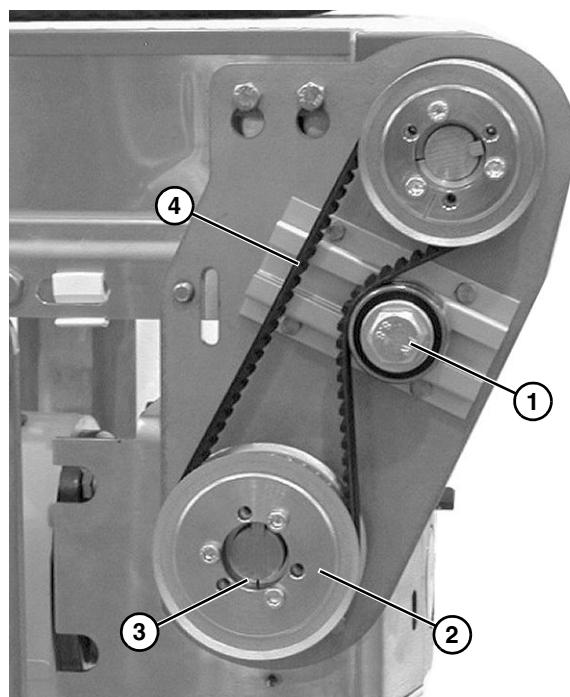

Figure 19
2. Loosen tensioner screw (**Figure 19, item 1**).
3. Remove pulley (**Figure 19, item 2**), taper hub assembly (**Figure 19, item 3**), and timing belt (**Figure 19, item 4**).